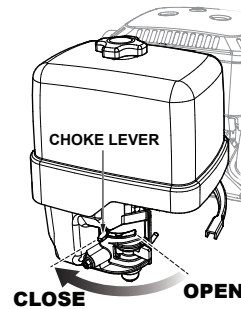

Figure 11. Choke Lever (Closed)
2. To start a cold engine, move the choke lever (Figure 11) to the **CLOSED** position.